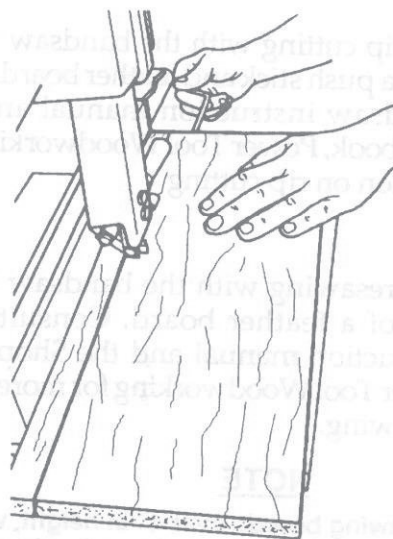
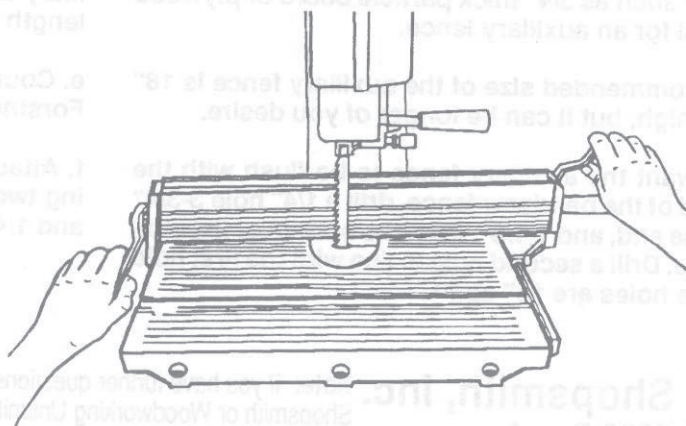

Fig. 17
Fig. 18
15. The fence should now be parallel to the board. If a small gap still exists along the fence and board, use a 5/32" Allen wrench to adjust the setscrews (12) located in the end of the fence base (15), as seen in Fig. 17. This will eliminate any remaining gap. The setscrews should be used only to correct minor misalignment.
16. Lock down the rear clamp lever (10).
a. If **too tight**, raise the handle, then use a 1/2" wrench to loosen the special hex nut (3). Continue loosening this nut until the rear clamp lever can be locked firmly. See Fig. 18.
b. If **too loose**, raise the handle, then use a 1/2" wrench to tighten the special hex nut (3). Continue tightening this nut until the rear clamp lever can be locked firmly. See Fig. 18.